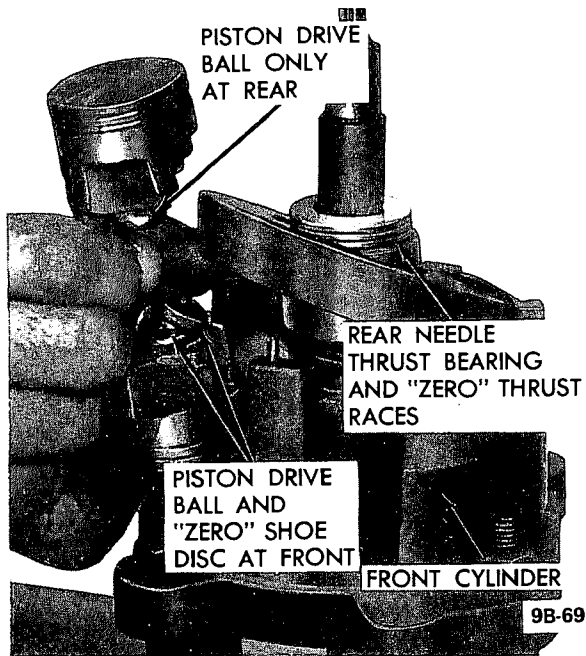

Figure 9B-95 Installing Piston into Cylinder Half - 6 Cylinder Compressor
7. Rotate shaft and axial plate assembly until high point of axial plate is over No. "1" cylinder bore. Position No. "1" piston onto axial plate (see Figure 9B-94) and lower the piston and axial plate so the front end (notched end - see Figure 9B-95) of the piston enters the cylinder bore.